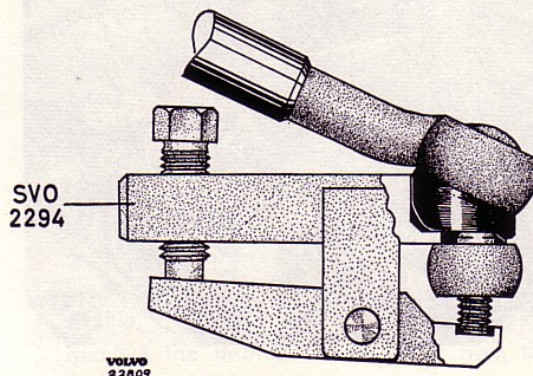

Fig. 17 Removing the steering rod
3. Remove the lower nuts for the engine mountings. Remove the steering rods from the pitman arm and relay arm with tool SVO 2294 according to Fig. 17.